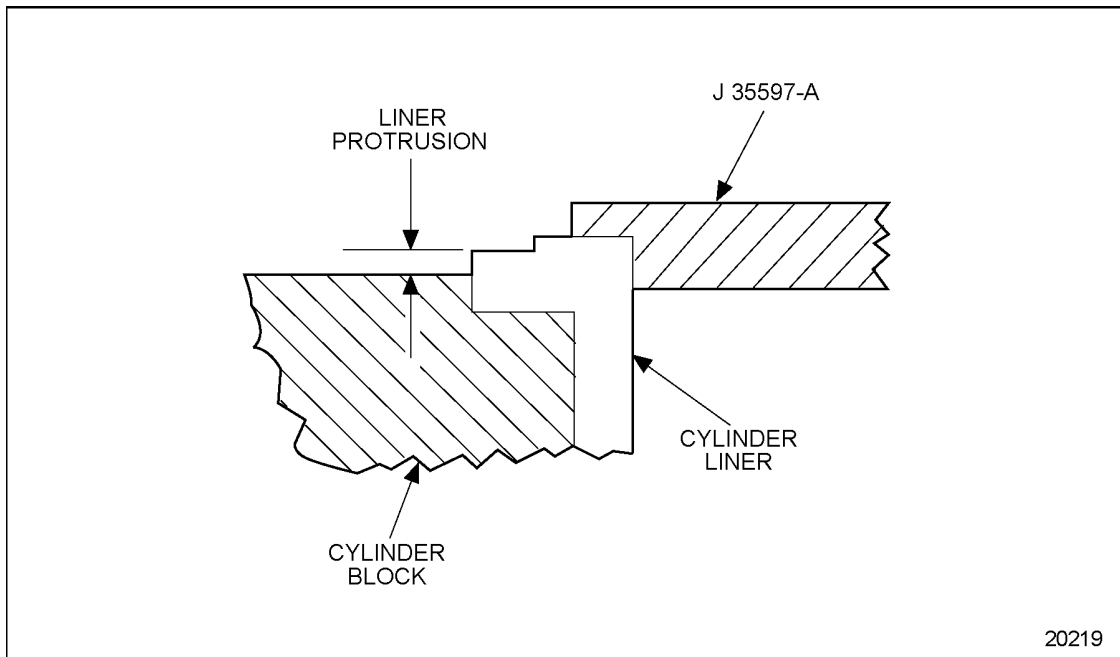

Figure 1-267 Cylinder Liner Protrusion
11. Measure the distance from the top of the liner flange to the top of the block. See Figure 1-267.